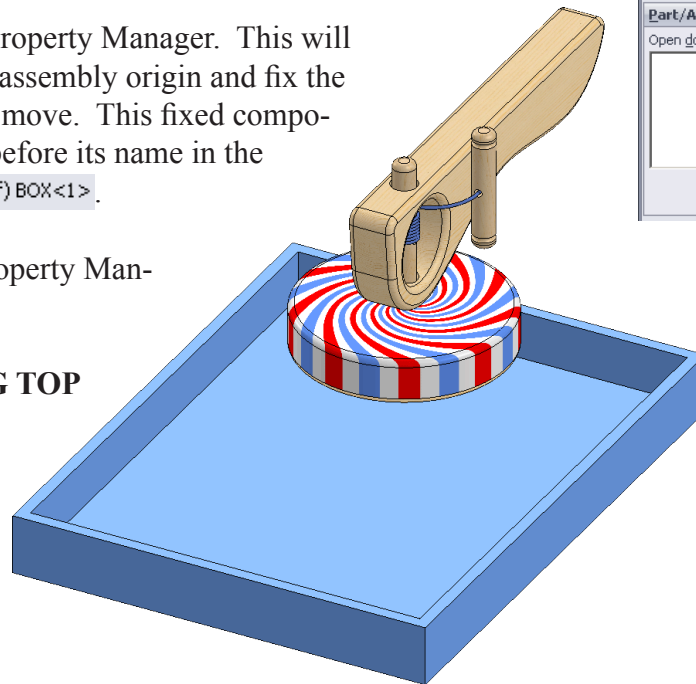

Fig. 2
Step 8. Click approximately where the Spinning Top is positioned in **Fig. 2**.